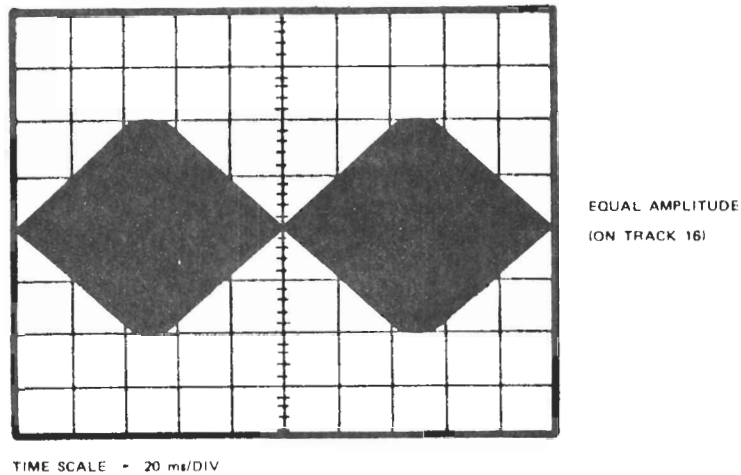

Figure 2-5
- 2.2.1.7 Adjust the dual-channel, wideband oscilloscope to observe a Cats Eye pattern (see Figure 2-5).